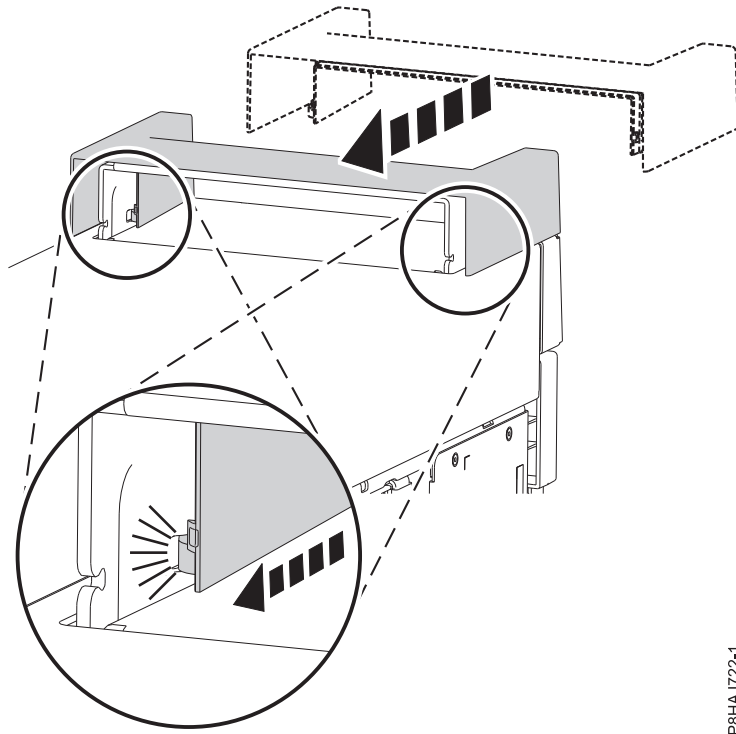

Figure 50. Securing the handle cover in an 8286-41A stand-alone system
1. Secure the handle cover to the internal RDX docking station (FC EUA3) by sliding it toward the rear of the system. See Figure 50.